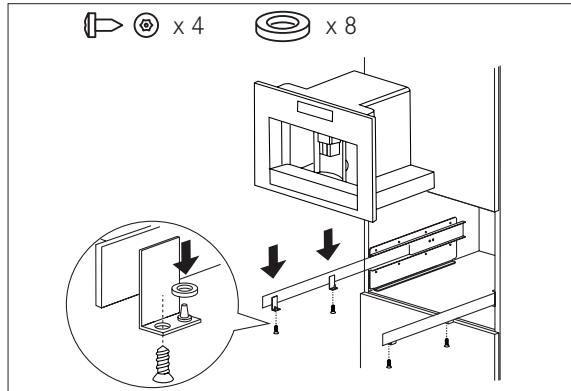

Fig. 5
- ▶ Position the appliance on the rails, making sure the pins are correctly inserted in the housings, then fix it with the screws supplied (Fig. 5). If the height of the appliance requires adjusting, use the spacer disks provided.